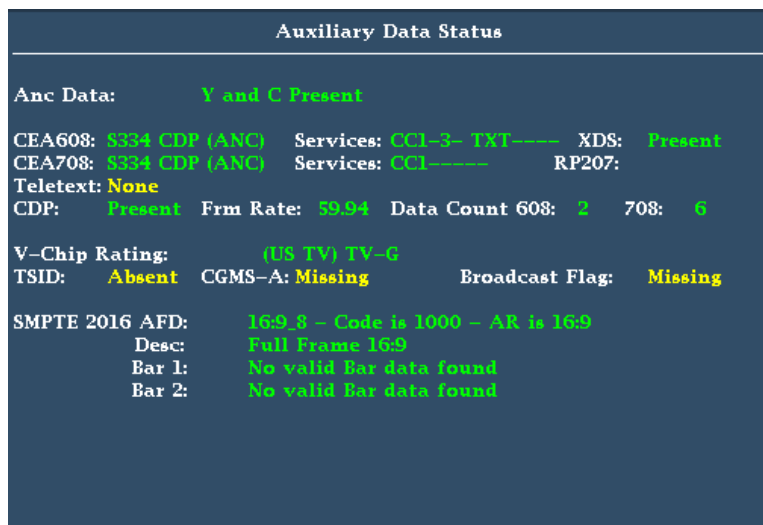

Figure 62: Auxiliary Data Status display
4. Select **Aux Data Status**. The Auxiliary Data Status display shows the status of the closed caption data. (See Figure 62.)
View the graticules in the Picture display. AFD information can viewed in the Auxiliary Data Status display. (See Figure 62 on page 131.)